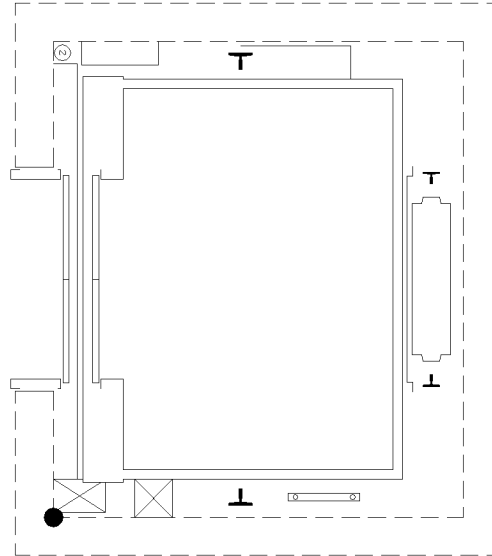

FIGURE 4-3.9 Elevator mirrored
18. **Mirror** the elevator as shown in Figure 4-3.9.
20. **Pick** the point identified by the **black dot** in Figure 4-3.9 using OSNAP's.
21. **Select** everything in Figure 4-3.9 except the walls which have been shown dashed for clarity (you already have walls in your plan).